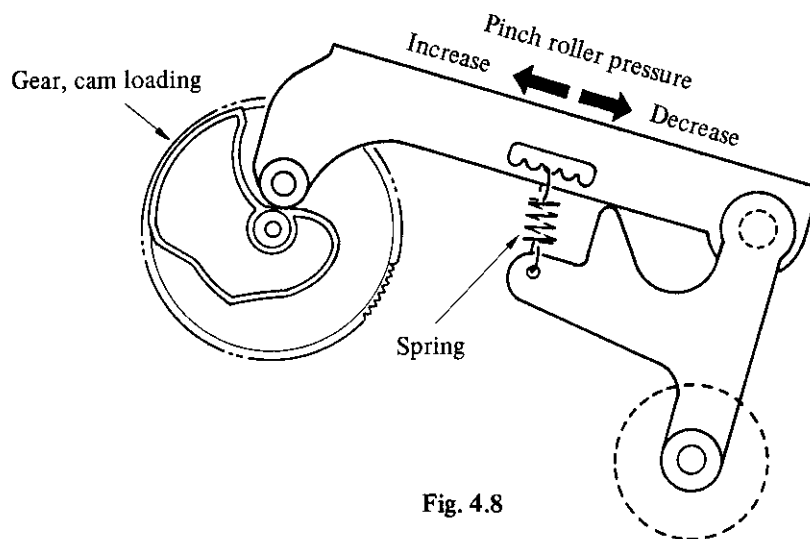

Fig. 4.8
- 5) If the reading is off specification, the pinch roller pressure is adjusted by changing the hole hooked up the spring as shown in the Fig. 4.8.